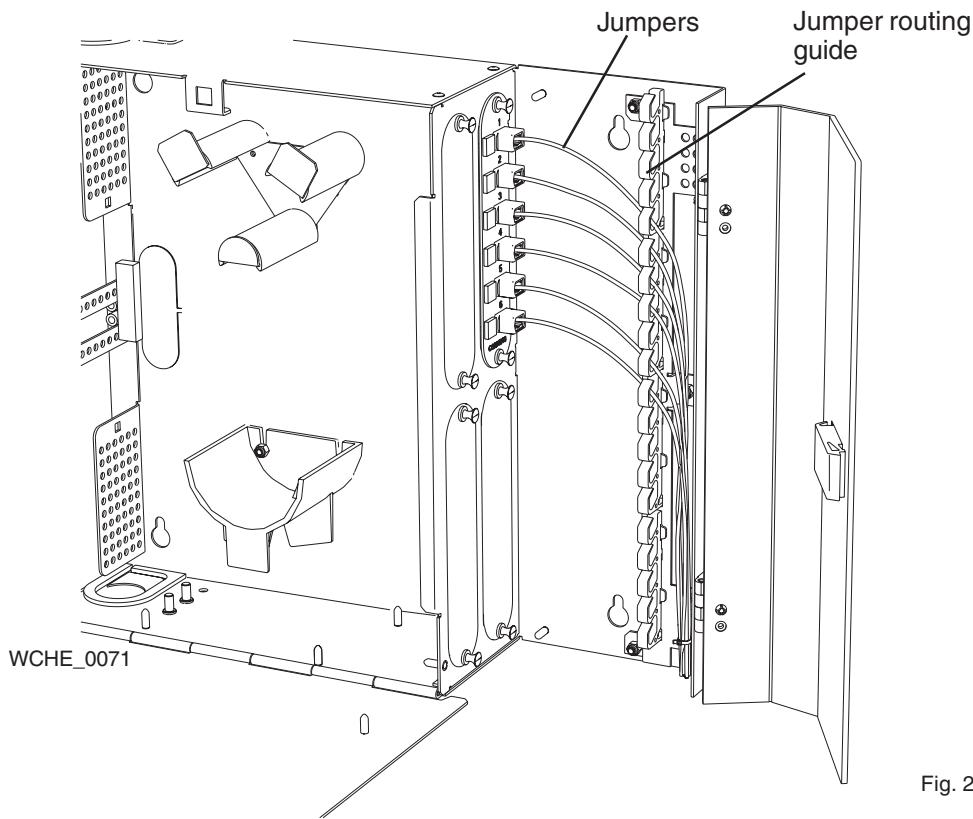

Fig. 22
11.1 Develop a plan for routing jumpers from the housing and locate the fibers in jumper routing guides (Fig. 22).